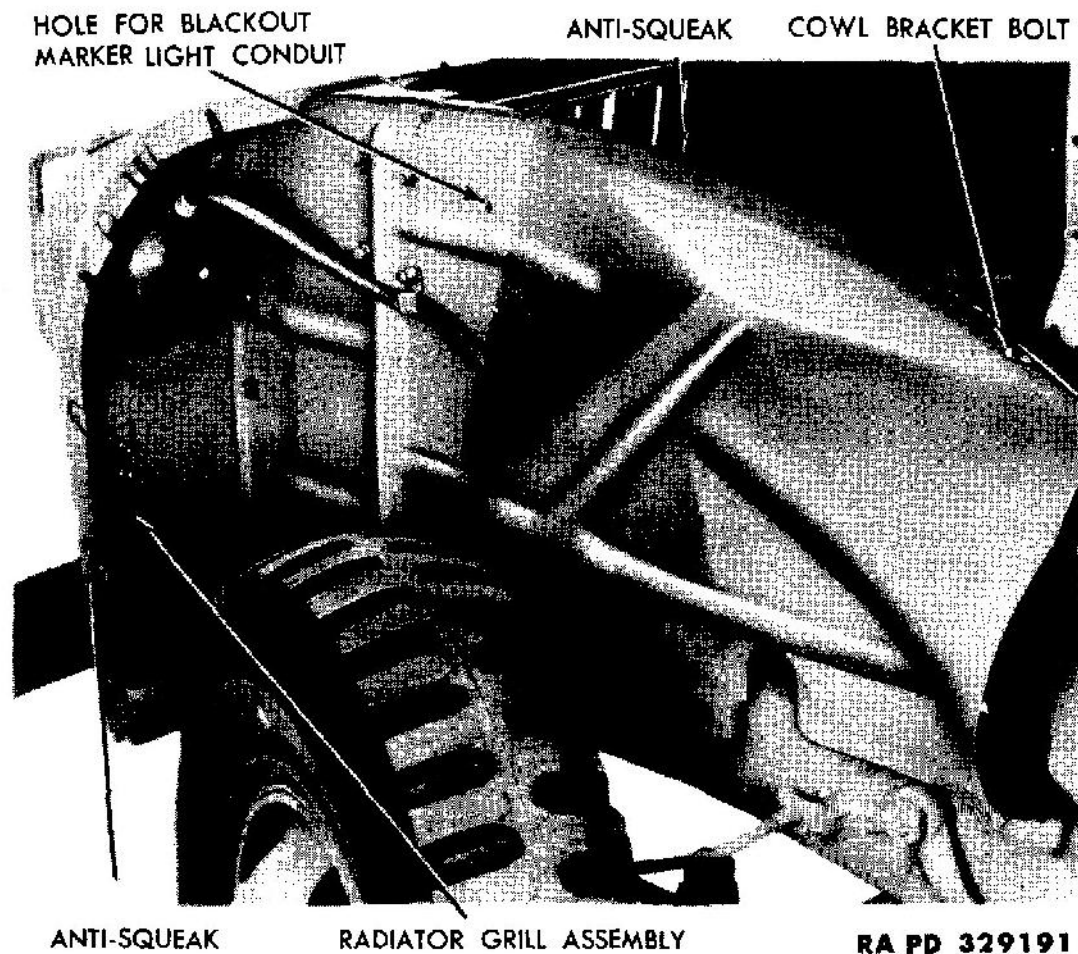

Figure 84 – Fender Apron
(2) **REMOVE FENDER BOLTS AND CAP SCREWS.** Remove the two carriage bolts and the one hexagon head bolt that hold the fender to the running board. Remove the nut, outer flat washer, spring and inner flat washer from the bolt (fig. 84) which holds the fender to the cowl bracket. Remove the three carriage bolts and one hexagon head bolt which hold the top of the fender to the apron. Remove the six cap screws which hold the radiator grille top deflector to the radiator grille assembly, and remove the deflector. Remove the two bolts and one cap screw that hold the fender to the radiator support bracket (fig. 83). Remove the six bolts that hold the fender to the radiator grille assembly. Pull the fender up at the rear end and remove the fender.
(1) **INSTALL FENDER BOLTS.** Examine the anti-squeak on the fender apron and if it is worn or damaged, install a new anti-squeak (fig. 84). Place the fender in position and enter the cowl bracket bolt, at the bracket, through the fender apron and the fender (fig. 84). Install the inner washer, spring, outer washer, and nut on the bolt, just starting the nut on the bolt. If the anti-squeak used between the fender and the radiator grille assembly (fig. 84) is worn or damaged, install a new anti-squeak. Enter the two bolts, through the underneath part of the top front corner, of the fender, and the bracket, just ahead of the top of the radiator support. Place the flat washers and lock washers on the bolts and start the nuts. Enter the six bolts through the fender and radiator grille assembly, and place a flat washer, lock washer, and nut on each of the six bolts, just starting the nuts on each bolt. Enter the three carriage bolts through the top flange of the fender and the top of the apron, and enter the hexagon bolt in the front hole. Place a flat washer and lock washer on each bolt, and start the nut on each bolt. Enter the two carriage bolts and one hexagon head bolt through the rear part of the fender and the front of the running board. Install a flat washer, lock washer, and nut on each bolt and tighten the nuts. Tighten the nut on the cowl bracket bolt (fig. 84) until the cotter pin can be entered in the